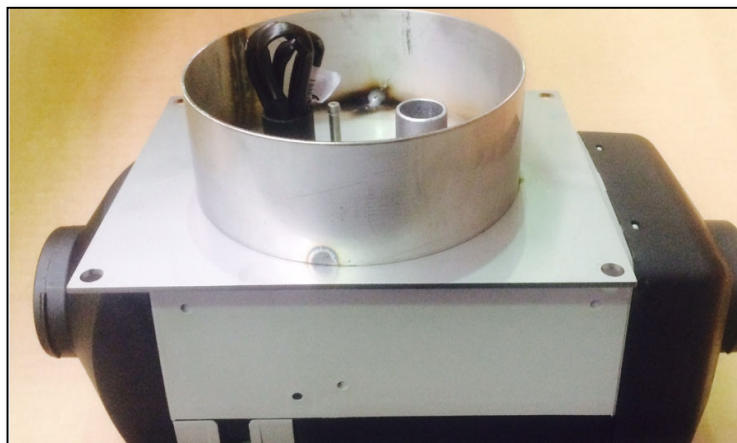

Fig 7 – Bracket facing upwards and notice the wires in the combustion air inlet.
- 2.2 Place the heater so the bracket is facing up (Fig 7), you will now notice electrical wires bundled in the combustion air inlet (Fig 3) (3), these 2 black wires are for the fuel pump.